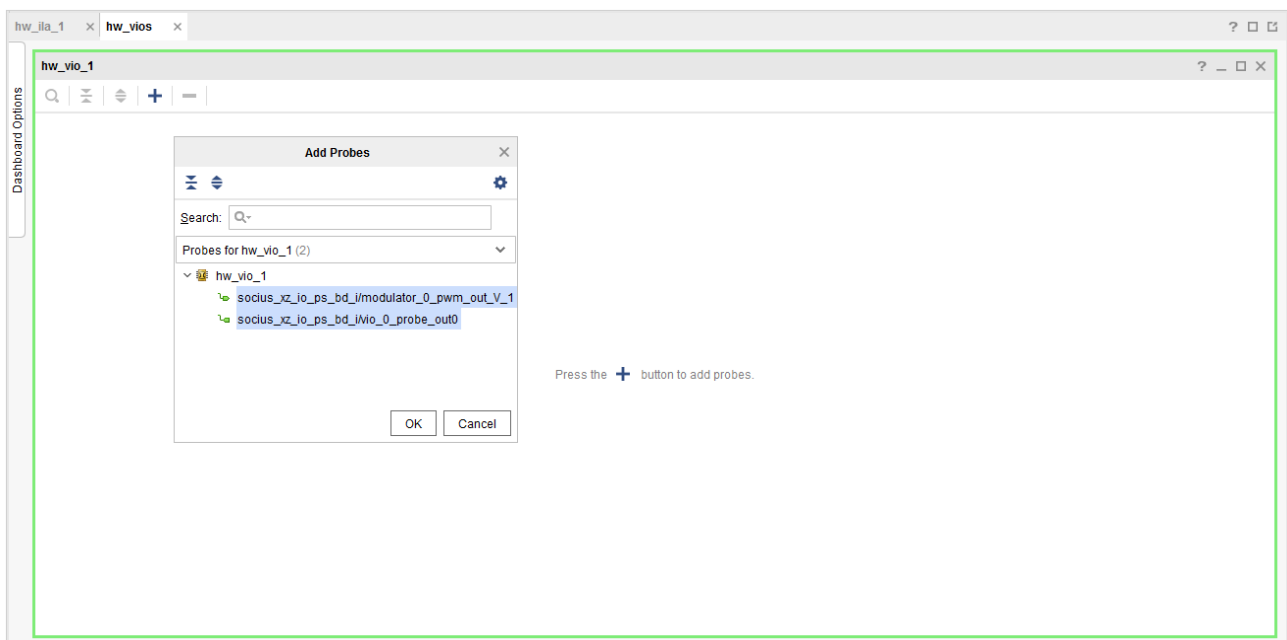

Figure 3.15: Add Probes to the VIO window
2. In the **Add Probes** window select both offered **modulator_0_pwm_out_V_1** and **vio_0_probe_out0** probes and click **OK**, see Figure 3.15.